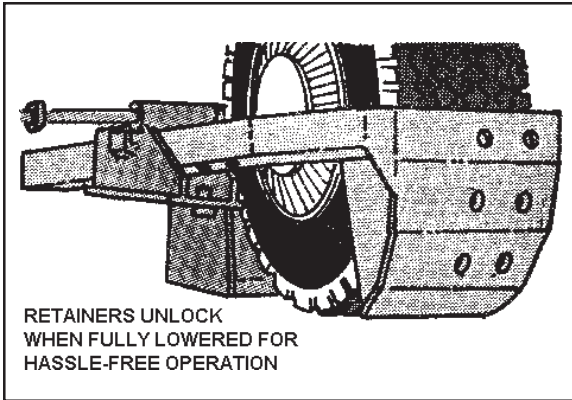

Figure 4-11.
7. Operate the underlift to lower the cross bar all the way to the ground. This should automatically unlock the wheel retainers from the receivers. (See Figure 4-11.)